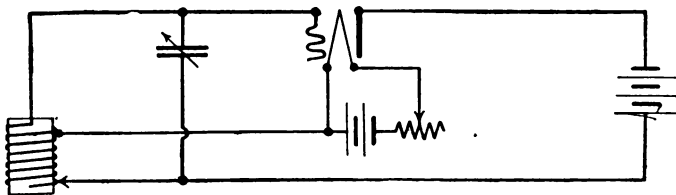

Fig. 19.—The Secondary Circuit of an Undamped Wave Receiver.
B. Tapped secondary coupling. With a circuit as in Fig. 19 no adjustment is needed, though the strength of the oscillations can be varied by changing the taps which